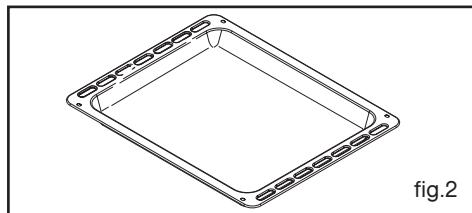

fig.2
- **Plat lèchefrite multi-usages fig.2**